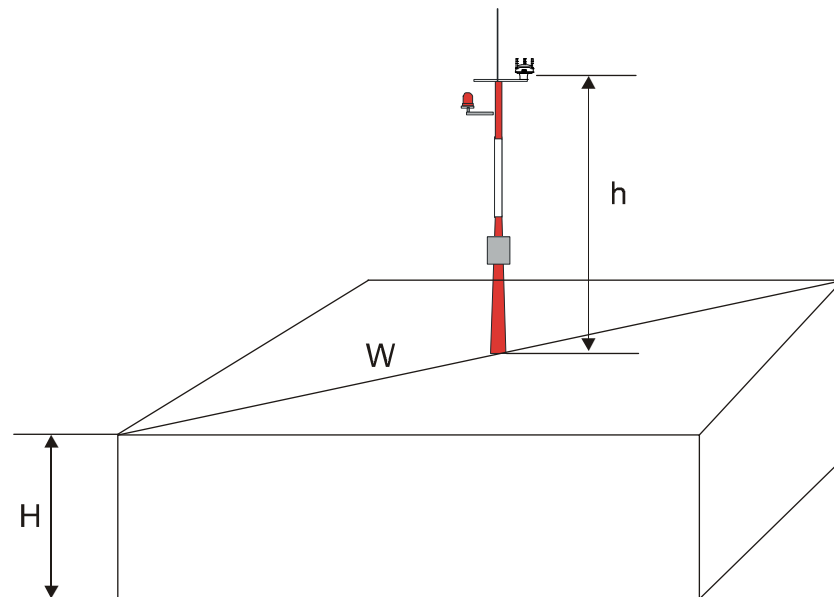

Figure 10 Recommended Mast Length on Top of a Building
The recommended minimum length (marked with the letter h in Figure 10 on page 29) for the mast that is installed on top of a building is 1.5 times the height of the building (H). When the diagonal (W) is less than the height (H), the minimum length of the mast is 1.5 W .